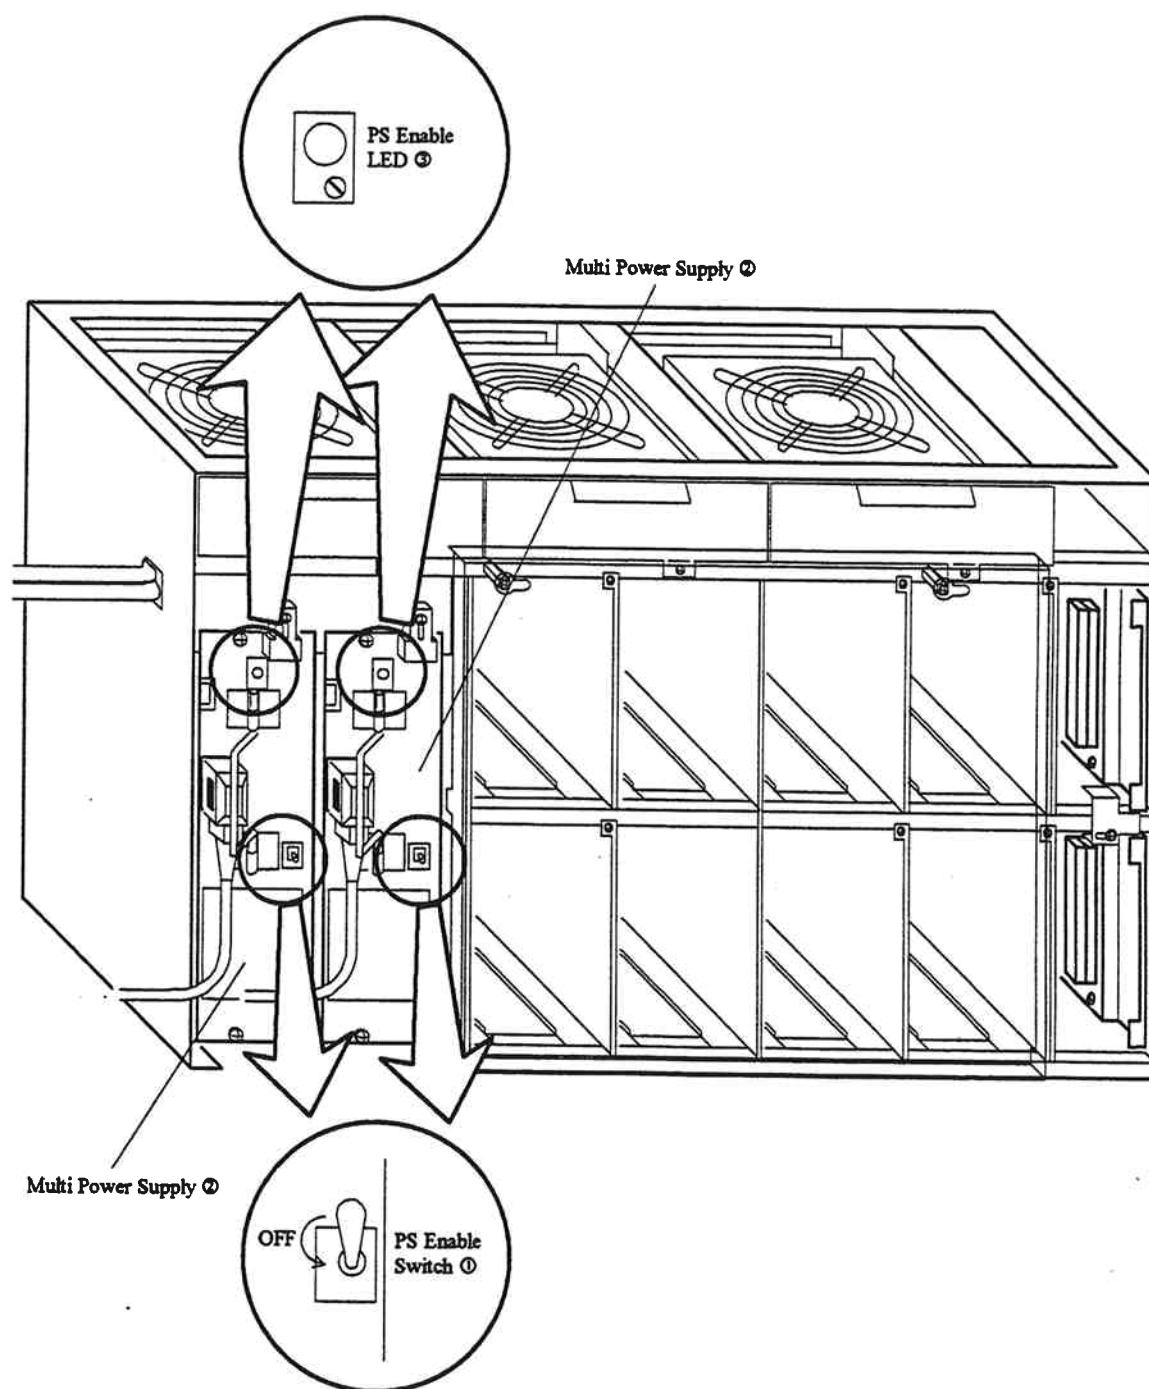

Fig. 3.4.6.3-4 Set the PS Enable Switch on the Multi Power Supply (New Type)
a. Disconnect the INLET cables referring to Table 3.4.6.3-1 and Fig. 3.4.6.3-5.